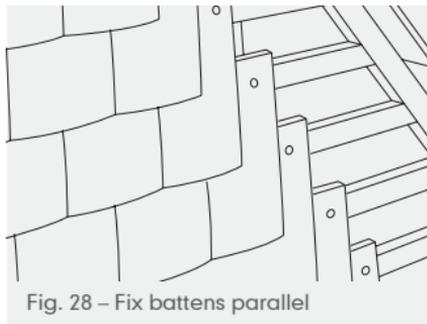

Fig. 28 – Fix battens parallel
- 1 Leave battening short of rake of verge. This allows fixing of a batten parallel to, but below rake line. The top face of this batten must be flush with the tiling battens so that tiles do not tilt up (Fig. 28).